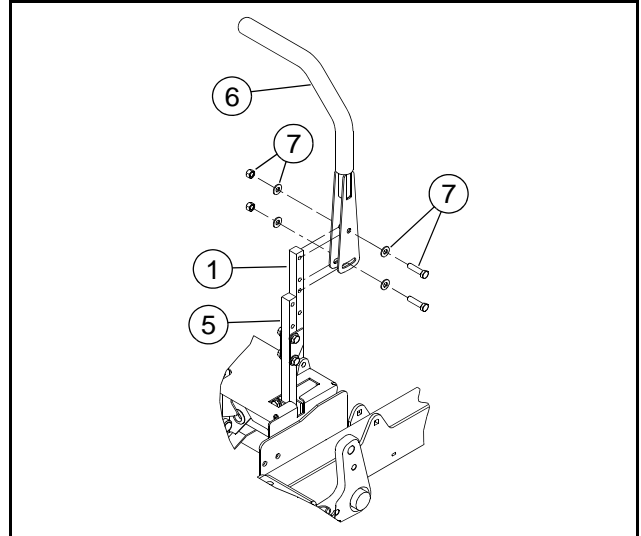

FIG. 2
4. Slide the upper steering control lever up or down and align the holes in it with the holes in the steering arm extension. Attach the upper steering control lever to the steering arm extension using the retained hardware. FIG. 2